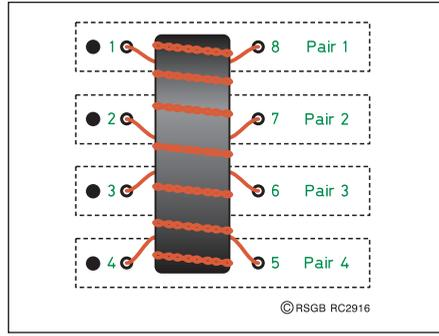

Fig 5: The connections for T1, which correspond with those shown in Fig 3. The winding on the toroid is four twisted strands of 0.3mm enamelled copper wire.
- Use a buzzer or ohmmeter to identify the four pairs of windings. Arrange them as in the diagram Fig 5. This is the lead out pattern needed for the PCB.
The PCB tracks connect the windings in the correct phase as long as the pair groups are maintained as in Fig 5.